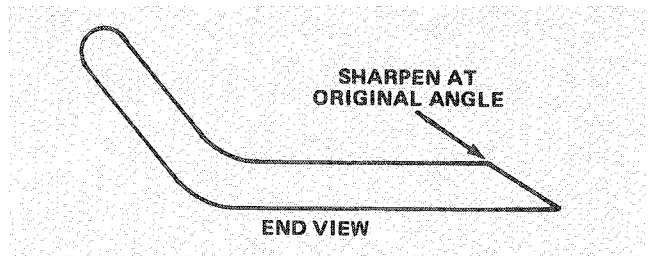

Figure 38
3. Examine cutting edges of all blades. Sharpen the cutting edges if they are dull or nicked. Sharpen only the top side of the cutting edge and maintain the original cutting angle to assure sharpness (Fig. 38). The blade will remain balanced if same amount of metal is removed from both cutting edges.